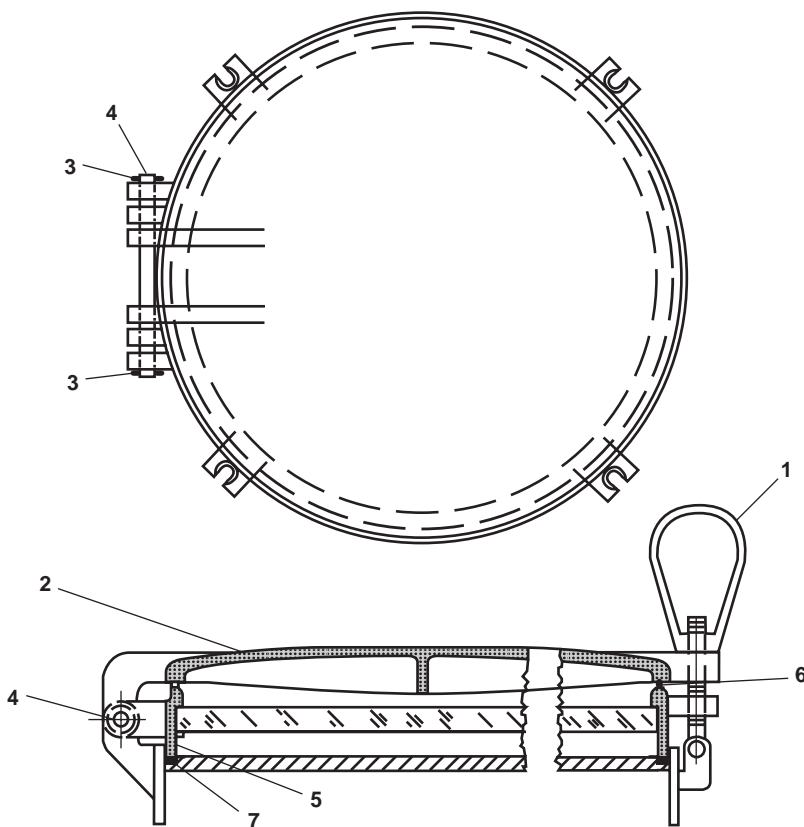

Figure 1. Window Cover and Glass Frame
1. Loosen four bell nuts (figure 1, item 1) and undog the cover (figure 1, item 2).
2. Remove and discard the two cotter pins (figure 1, item 3) from the hinge pin (figure 1, item 4).
3. Have one crewmember hold the cover (figure 1, item 2) and glass frame (figure 1, item 5) while the other crewmember removes the hinge pin (figure 1, item 4).
4. Set aside the cover (figure 1, item 2) and glass frame (figure 1, item 5) if they will be installed later.
1. Have one crewmember hold the cover (figure 1, item 2) and glass frame (figure 1, item 5) in position while the other crewmember installs the hinge pin (figure 1, item 4) to hold them in place.
2. Install two new cotter pins (figure 1, item 3) in the hinge pin (figure 1, item 4) to secure it in place.
2. Remove the rubber strip (figure 1, item 6) from the cover (figure 1, item 2) or from the frame (figure 1, item 7) as required.
1. Position the rubber strip (figure 1, item 6) in the channel of the cover (figure 1, item 2) and/or the frame (figure 1, item 7) ensuring that the rubber strip is pressed firmly into place throughout the entire channel.
2. Clean the sealing edge of the glass frame (figure 1, item 5).
3. Apply a chalk line completely around both sealing edges of the glass frame (figure 1, item 5).